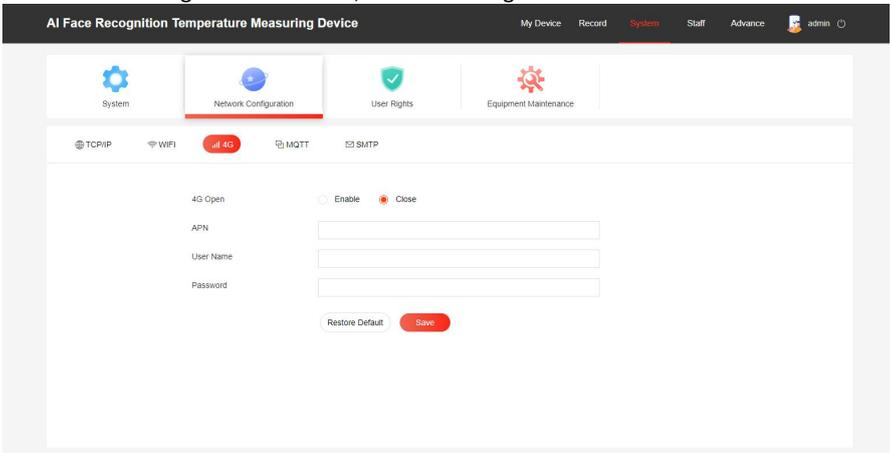

Figure 7-14
Step 1: After logging in to the web page, click "System → Network Configuration → 4G" to enter the 4G configuration interface, as shown in Figure 7-14.